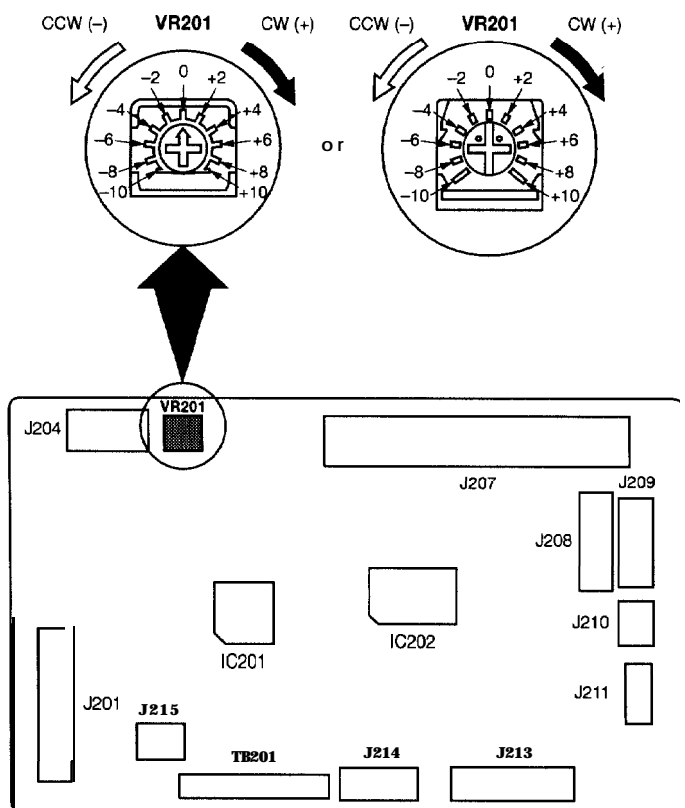

Figure 6-7
- 4) Adjust VR201 so that the value obtained in step 3 is 2.0 mm according to Table 6-4. For example, if the average value in step 3 is 2.6 mm, the difference is 0.6 mm. Set VR201 to +2 by turning it clockwise. (See the table 6-4 and figure 6-7.)